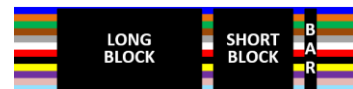

Figure 6
5.2.2 Once the bushing is at the edge of the PVDF jacket, it should look similar to the image seen in figure 6. See **Figure 5**.